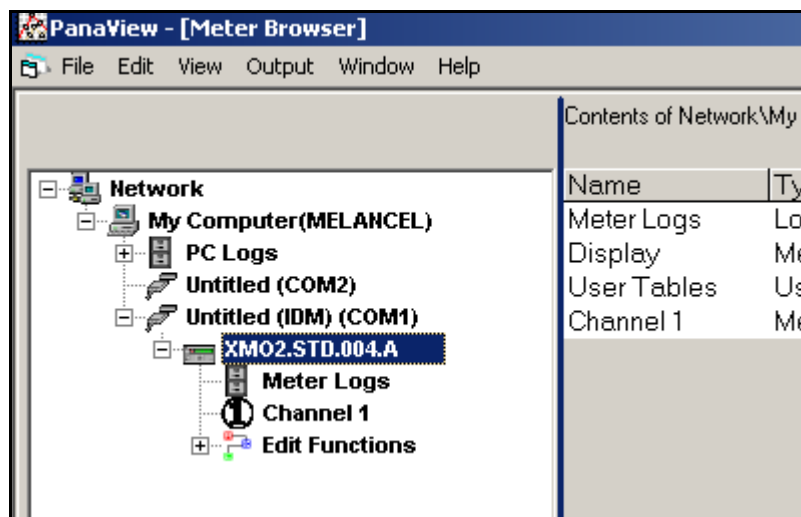

Figure 83: New Meter Browser with Meter Branch
3. Then expand the meter tree as shown in *Figure 83* below.